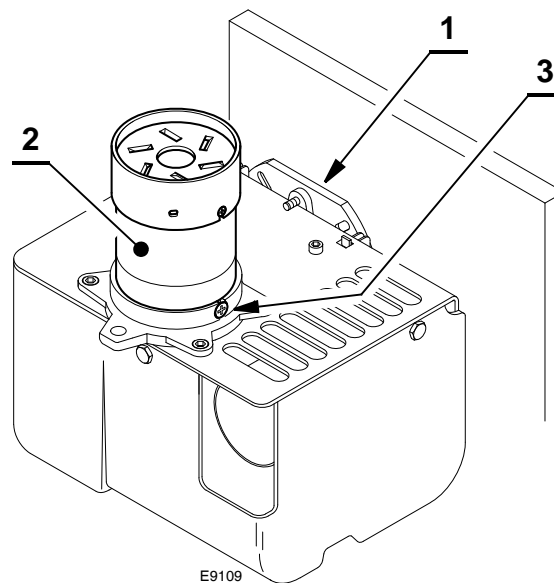

Fig. 24
- Hook the burner to the flange 1)(Fig. 24), by removing the blast tube 2) after losing the fixing screws 3).